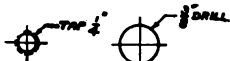
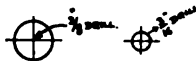

Fig. 40.
Fig. 41.
(5) Never use a center line as a dimension line. Notes concerning circles should be neatly placed. (Fig. 40). Avoid doing as in Fig. 41.